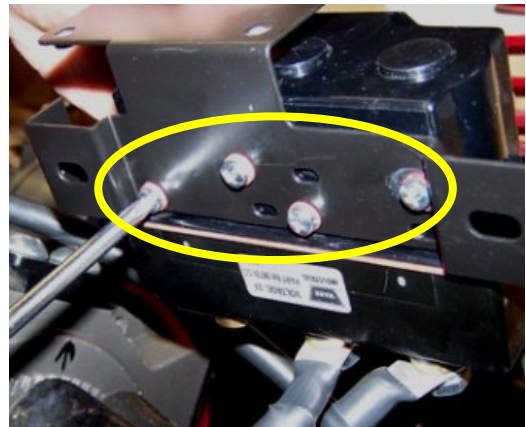

Figure 12
Step 11: Install the bracket onto the contactor and tighten the four screws (Figure 12)